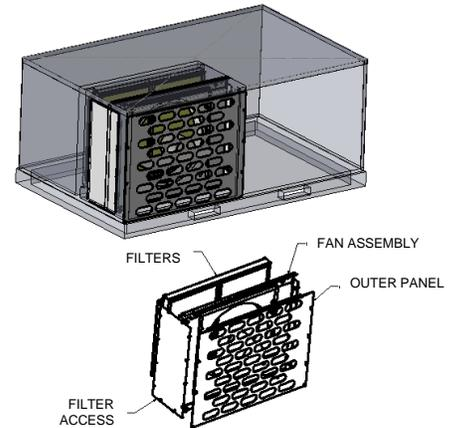

FIGURE 9
2. Remove filter access panel. Loosen thumb screws at bottom of filters. Replace if dirty. See **Figure 9**.